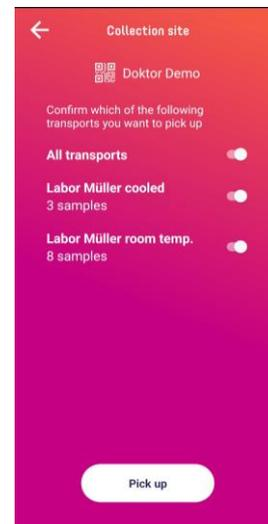

Figure 32. Sample pickup at collection sites
A list of available transports routes will be displayed (see Figure 32).
- a)** Tap the toggle button on the right of the relevant route(s) (see Figure 32).